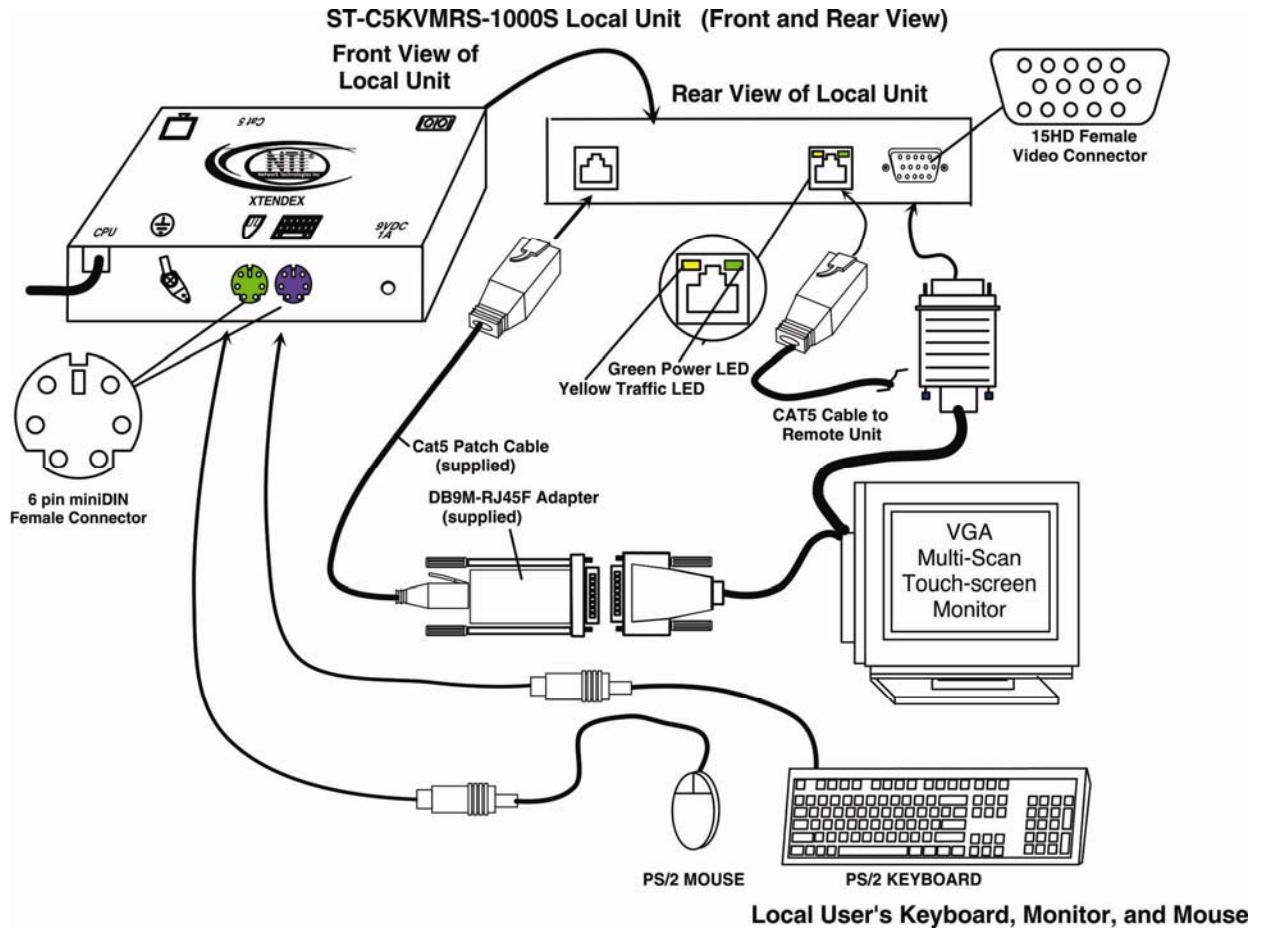

Figure 2- Connect the local user to the XTENDEX Local Unit
2. Make connections for a local user (see Fig. 2)